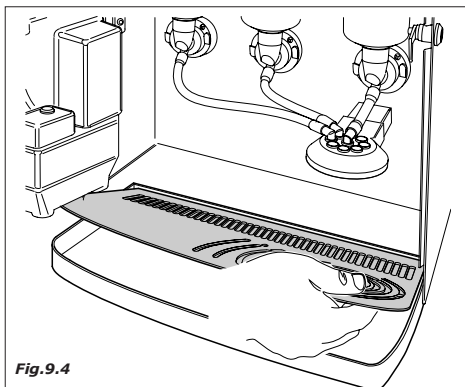

Fig.9.4
- dispensing chamber (Fig. 9.4)